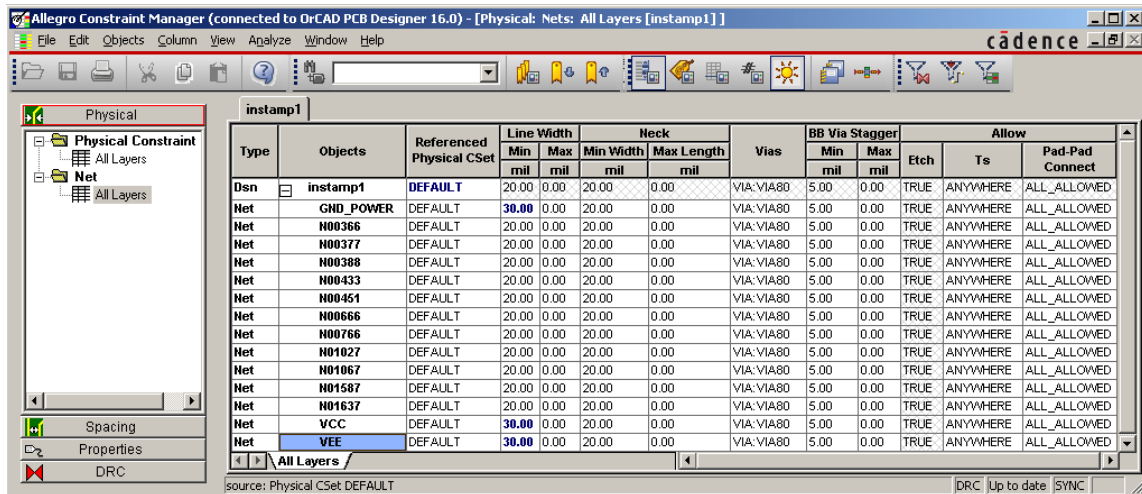

Figure 13. Constraint manager after changing the widths of the three power nets.
2. The left-hand part of the window shows the various properties that can be edited. Click on All Layers under Net. See figure 13 on the next page for guidance.
Fixup. Choose Setup > Constraints > Physical... from the menu bar. Select Physical Constraint Set > All Layers to bring up the spreadsheet shown in figure 13 on page 31. The column headed Vias for the DEFAULT row probably has VIA:VIA80. Highlight this cell and choose Edit > Change... Remove VIA from the Via list on the right and click OK. The cell will change to VIA80, which is what we want. Close the Constraint Manager and save your board.